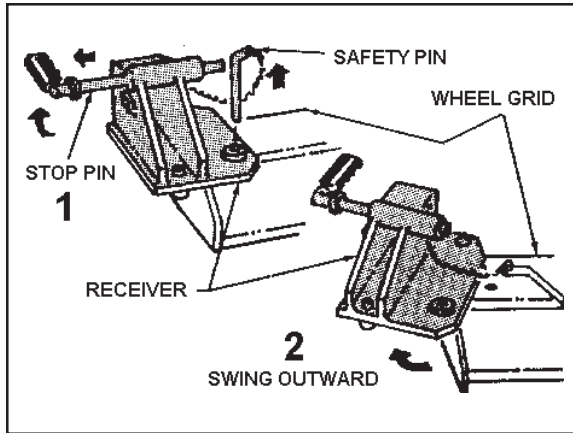
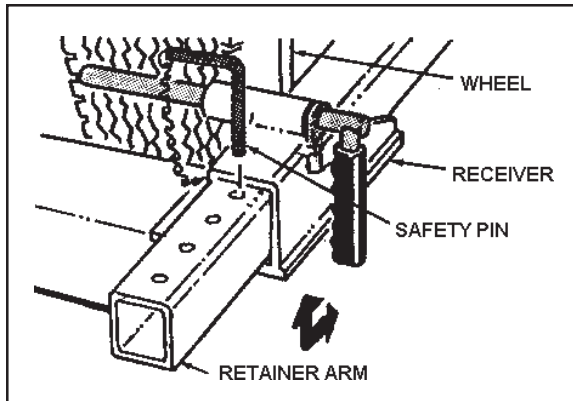

Figure 4-3.
Figure 4-6.
6. Retract the wheel stop pins. Remove the safety pin from the receivers of the wheel grids. Swing the receivers outwards. (See Figure 4-3.)
11. At each wheel, insert the safety pin in a hole in the top of the arm, close to the receiver. (See Figure 4-6.)
12. At each wheel, position the stop pin so it is directly in front of the tire. (Refer to Figure 4-6.) In the case of a broken tie rod or flat tire, the extra safety pin should be used to lock horizontal movement of the wheel retainer receiver. (Refer to Figure 4-3).